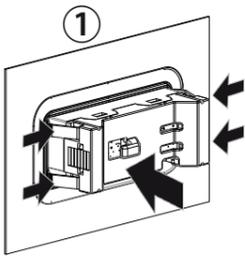

Fig. 4
- 从后端打开配电盘(图4):
- Open the electrical panel and from the rear (Fig.4):